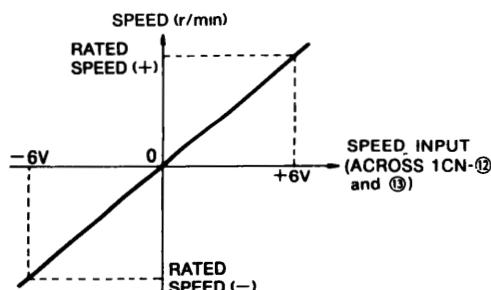

Fig 10.1 Speed Reference Input—SERVOMOTOR Speed Ratio
(1) Speed reference input-servomotor speed ratio (no load) (Fig. 10.1)